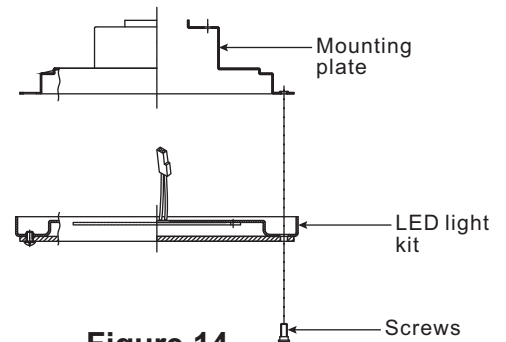

Figure 14
**Step 2.** Remove the LED light kit from the mounting plate. (Fig. 14)